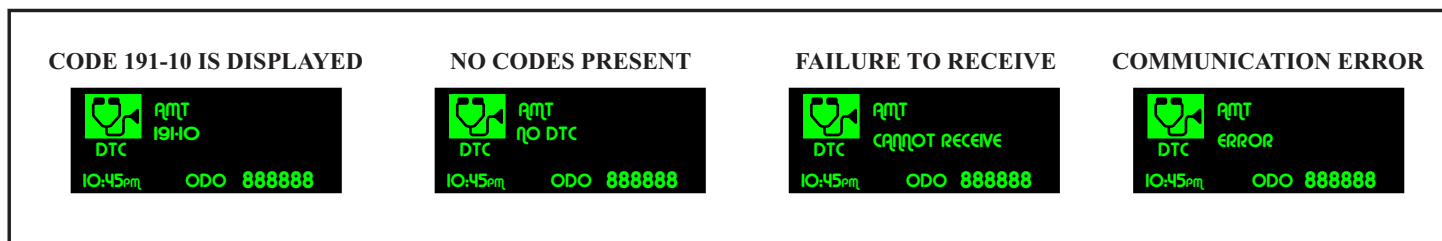

Figure 6
- Generated diagnosis codes are displayed. When two or more diagnosis codes have been generated, they are displayed in turns at 3 second intervals. If there is no diagnosis code, NO DTC is displayed, see figure 6.
- If ERROR or CANNOT RETRIEVE is displayed during communication, perform the operation again, see figure 6.